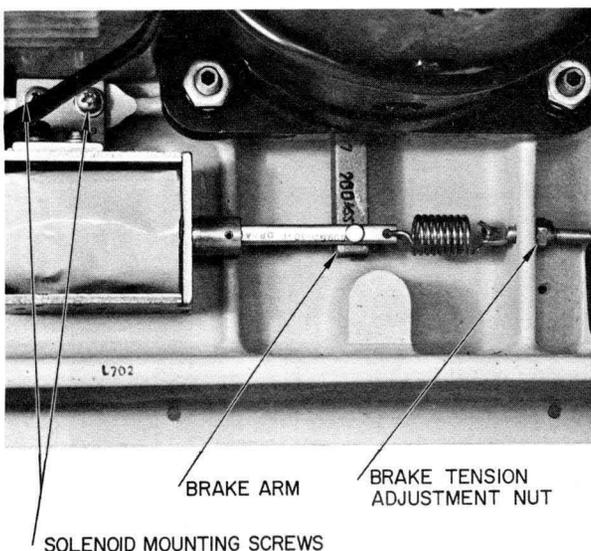

Figure 4-11.
Step 3: If the difference in positions is incorrect, loosen the two screws which hold the brake solenoid (Figure 4-11) and move the solenoid to a new position. Repeat Steps 1 and 2.
Step 4: Connect a spring balance to the brake solenoid arm and check brake tension, which should be $7 \pm \frac{1}{2}$ lb. If spring tension is not within tolerance, loosen or tighten the tensioning nut on the spade bolt to which the spring is attached. (See Figure 4-11.)